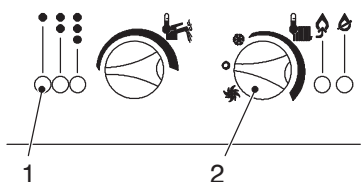

Figure 1
6. Wait five (5) minutes to clear out any gas. Then smell for gas including near the floor. If you smell gas STOP! Follow "B" in the safety information above on this label. If you don't smell gas, go to next step.
8. Turn on the electricity supply to the boiler, switching on the circuit breaker. The appliance operation light 1 (figure 1) will flash every 4 seconds (stand-by condition).
2. Turn the boiler off by setting the function selector 2 to the position shown in figure 1.